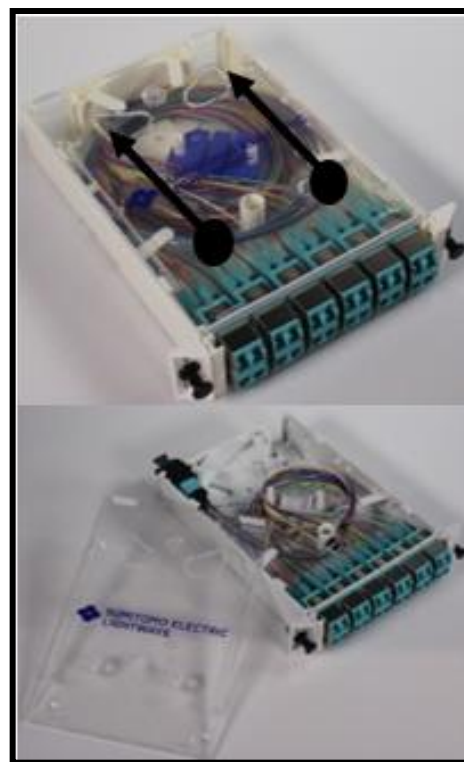

Figure 4
B. Cover/Lid – The cover requires no tools to remove. See **Figure 4**.